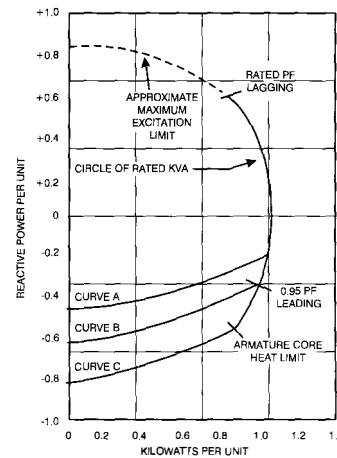

Figure 6 - Minimum/Maximum Excitation Limiting
2. For control chassis dimensions, see Figure 6.
MINIMUM/MAXIMUM EXCITATION LIMITER The excitation limiter performs two functions when used with the SSE. As a maximum excitation limiter, it senses the field current output of the SSE and limits the field current to prevent overheating of the field. As a minimum excitation limiter, it senses the leading VARs into the generator and limits the excitation to prevent loss of synchronization and end-iron overheating during parallel operation. The limiter is adjustable to the machine's specific requirements. See Figure 6.